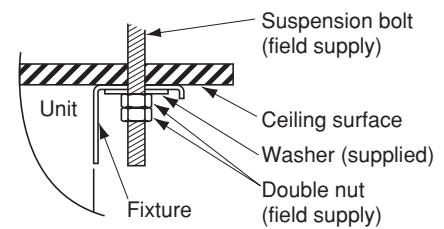
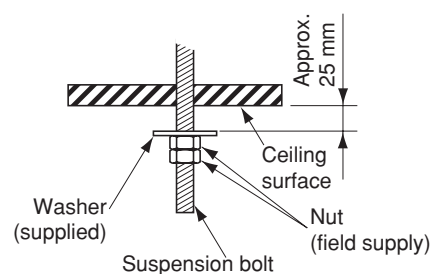

Fig. 3-73a
Fig. 3-73c
- (6) Carry out the preparation for suspending the indoor unit. The suspension method varies depending on whether there is a suspended ceiling or not. (Figs. 3-73a and 3-73b)
- (7) Suspend the indoor unit as follows:
- a) Mount 1 washer and 2 hexagonal nuts on each suspension bolt as shown in Fig. 3-73c.